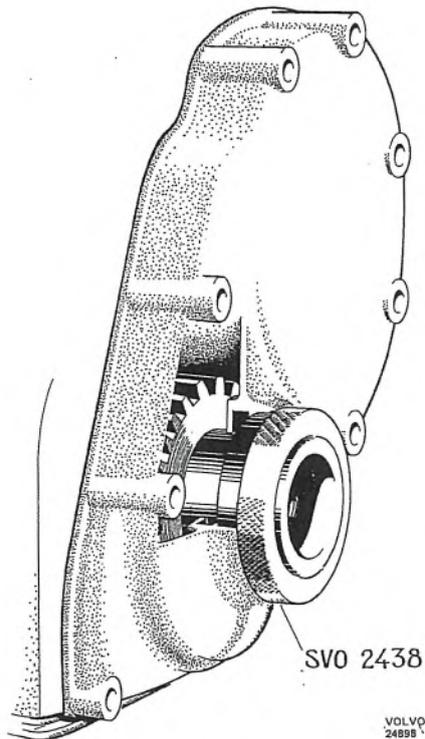

Fig. 2-38. Centering timing gear casing
6. Center the casing with sleeve 2438, see Fig. 2-38. Turn the sleeve while tightening and adjust the position of the casing so that the